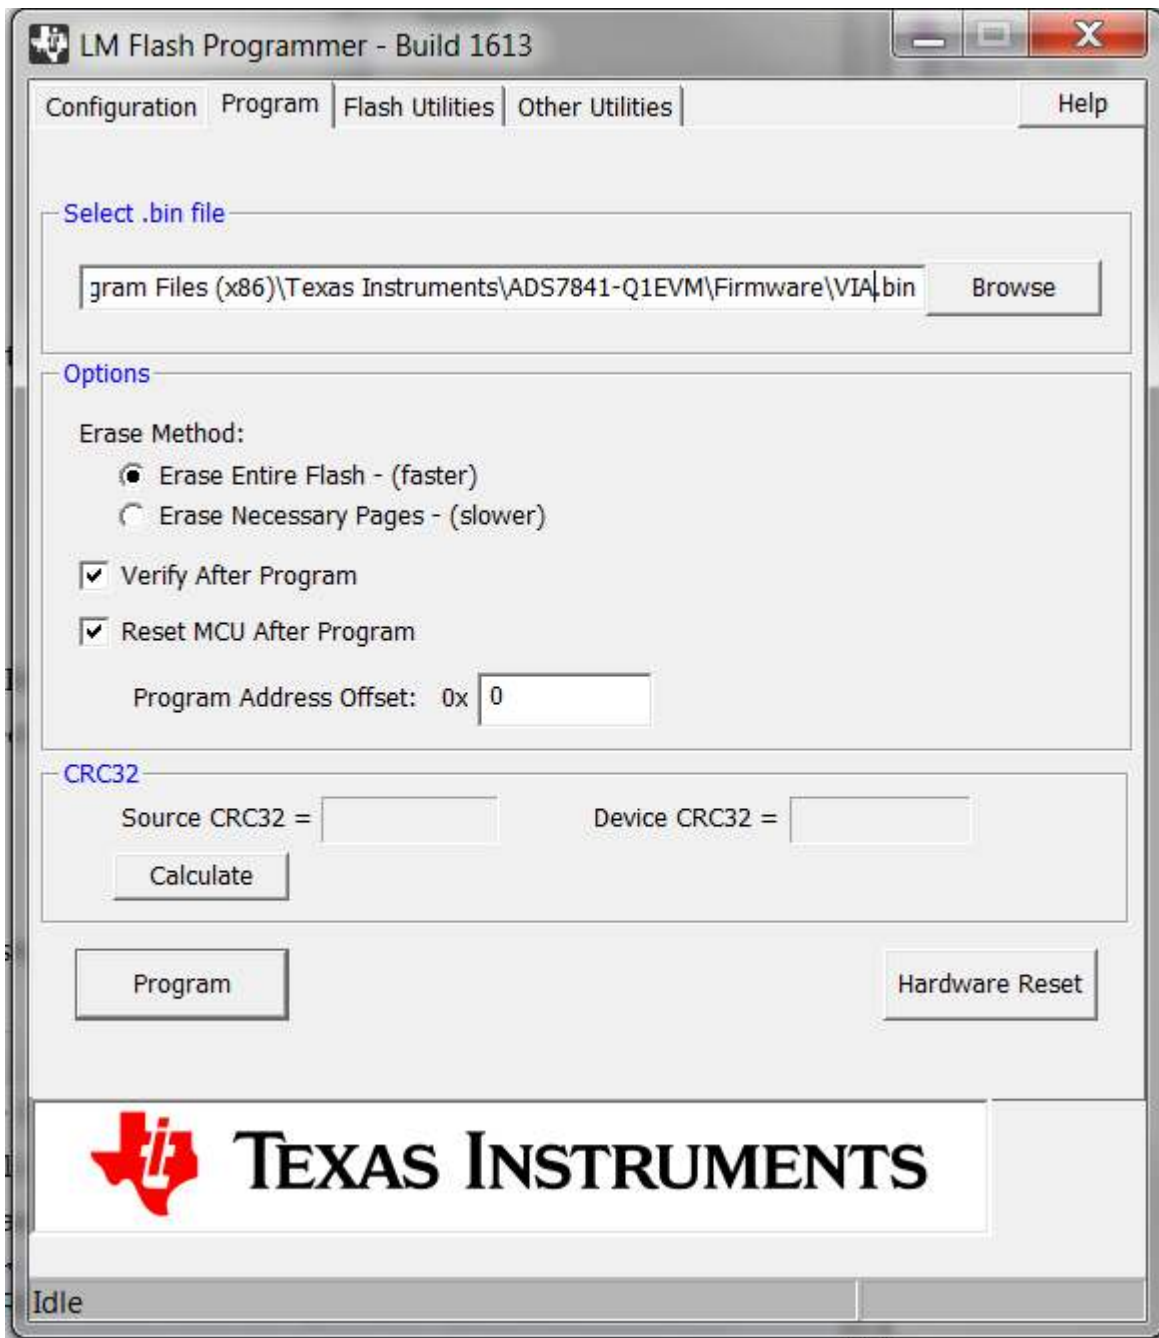

Figure 8. TM4C1294 LaunchPad™ Programming Using LM Flash Programmer
- From the Program tab, program the TM4C1294 with the BOOSTXL-ADS7841-Q1 EVM firmware as shown in Figure 8.